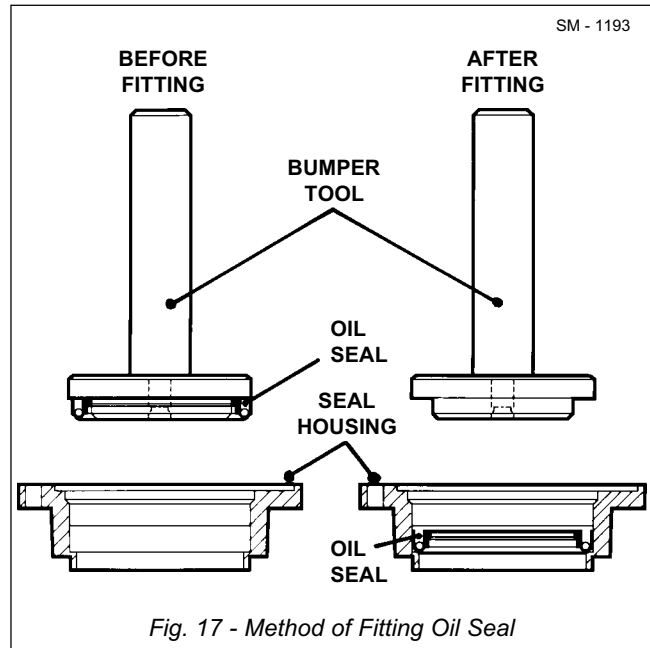

Fig. 17 - Method of Fitting Oil Seal
a. Seal must be fitted using oil seal bumper tool (See Special Tools), which bears on the seal close to its outside diameter where the casing is strongest. Failure to use the oil seal bumper tool will result in distortion of seal casing, uneven wear of lip and leakage. Fig. 17 illustrates typical example where the seal is fitted into the seal retainer.
d. When replacing a seal, always check differential shaft (43) surface for damage in region polished by oil seal lip; even slight damage in this area can cause leakage. Very slight marks may be polished out with fine emery cloth but it is essential that polishing marks are parallel to the seal lip. Where there is more serious damage, it is permissible to fit two seals back to back if there is room in the retainer, i.e. outer seal with spring facing inwards. The outer seal acts as a spacer and ensures that inner seal is fitted square and that it runs on a different part of coupling surface.
2. Install end cap (42) assembly onto differential shaft (43).
3. Apply a small bead of Hylomar sealant around corner of bearing recess in end cap (42) and axle casing (37).
4. Install shaft bearing (40), lockplate (39) and left hand threaded shaft nut (38) onto differential shaft (43). Tighten shaft nut (38) so that shaft bearing (40) is hard against abutment shoulder on differential shaft (43), then bend over lockplate tab to fasten shaft nut (38) in position.
5. Check security of rear end cap studs (46) in axle casing (37) and tighten to a torque of 26 - 28 Nm (19 - 21 lbf ft) if necessary.
6. Install differential shaft (43) into axle casing (37) carefully engaging shaft splines with helical pinion (8) bore splines. When differential shaft is correctly located, drive it home using hide faced hammer.
Refer to Section 300-0020, SERVICE TOOLS, for part numbers of oil seal bumper tool (Fig. 17) and general service tools and adhesives required. These tools and adhesives are available from your dealer.